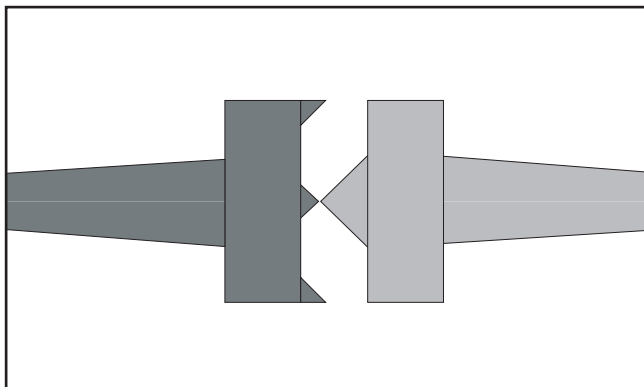

Figure 55. Center tips touching to ensure alignment.
2. Loosen the headstock lock handle and swivel the headstock so the tip of the centers touch, as illustrated in **Figure 55**, then lock the headstock in place.